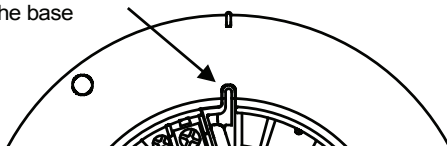

Figure 3: Eliminating the Locking Feature
1. To eliminate this feature, break off the locking tab (refer to Figure 3), and then install the detector.